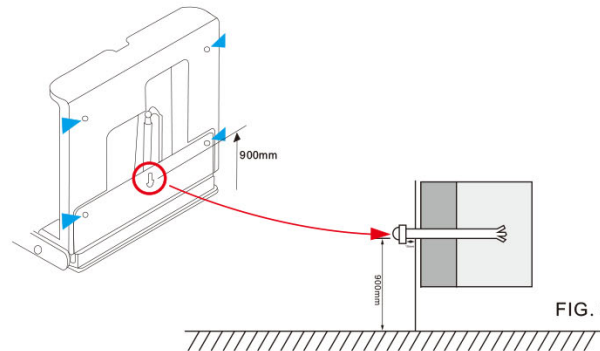

FIG. 3
3. Take out one screw to fix it into the middle hole (18.5CM form both right &left),screw out one centimeter, Hang the baby change station on the screw.(fig3)